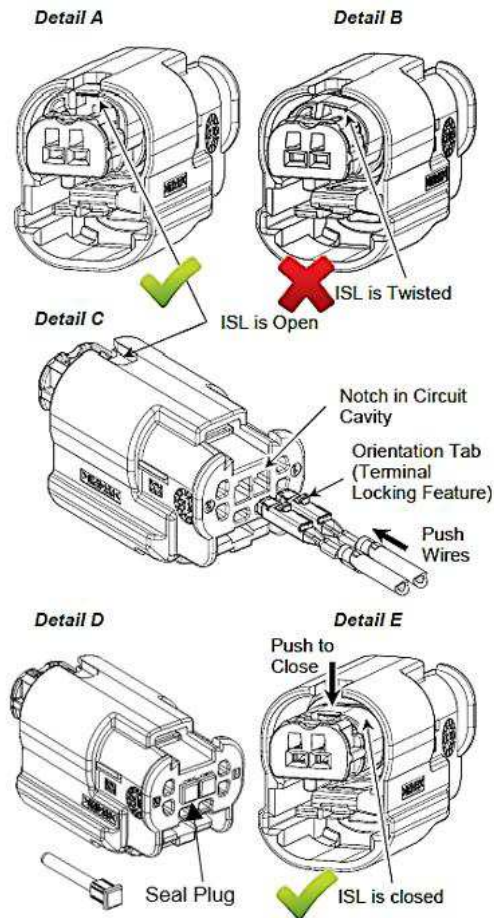

Figure 7
- Make sure that the ISL is open as shown in Figure 7, Detail A. If the ISL is twisted as shown in Figure 7, Detail B, or otherwise not fully open, open the ISL according to 3.7. C ii
- a. Align the terminals with the selected circuit cavity of the housing so that the terminal orientation tab faces in the same direction as the notch in the circuit cavity. See Figure 7, Detail C.
- b. Insert the terminal into the circuit cavity until it bottoms. There should be an audible or tactile “click” when the terminal is fully seated. Gently pull the wire to ensure that the terminal is locked in place. See Figure 7, Detail C.
- v. Install a seal Plug into any unused circuits. See Figure 7, Detail D.
- vi. After all terminals have been inserted, slide the ISL until it is closed. The ISL should be easy to close. See Figure 7, Detail E. Visually inspect that the ISL is closed and rests uniformly flush within the Plug housing. If the ISL does not close completely, confirm the terminals are indeed fully seated in the circuit cavities prior to re-closing the ISL.
- b. The ISL will move by approximately 1.5 mm so that it is flush with the inside of the outer housing. See Figure 7, Detail A. This is the “open position” and the ISL must be in this position before removing the terminals from the connector.